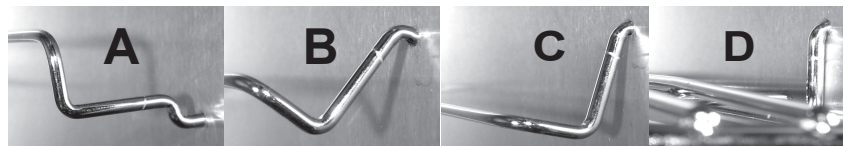

FIG. 2
-  Install the adjustable shelf by placing the ends of the wire shelf bracket into the corresponding holes located on the inner sides of the oven at the desired height. Push the ends of the bracket into the holes until the first bends in the bracket are against the wall, then rotate the bracket down. Place the shelf on the brackets. (FIG 2)